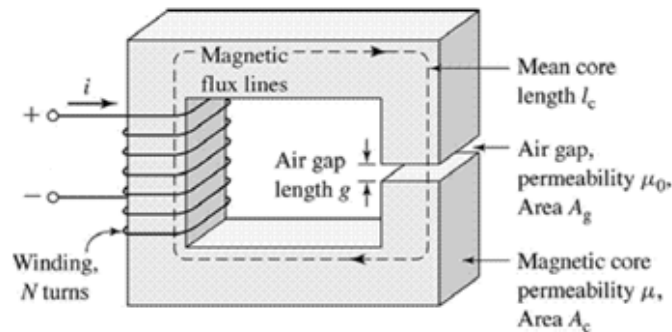

Figure 1
**Problem 1: (a)** A magnetic circuit as shown in Figure 1 has the following dimensions: